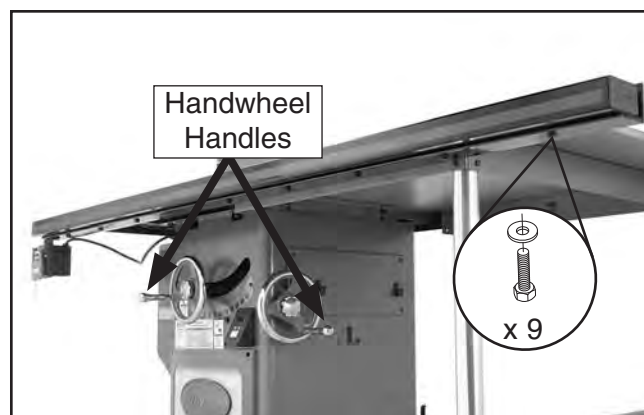

Figure 24. Fence tube mounted to front fence rail.
19. Place the 91½" fence tube over the 91½" front rail and secure with nine M8-1.25 x 12 hex bolts with 8mm flat washers, as shown in **Figure 24**.
20. Install the handwheel handles, as shown in **Figure 24**.